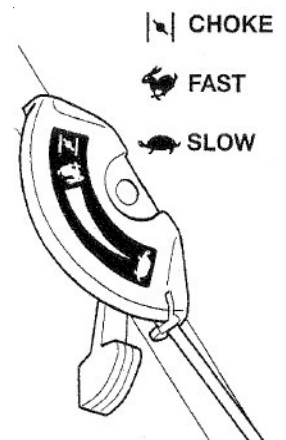

Figure 4
- Move the throttle control to the "Choke" position (Figure 4).